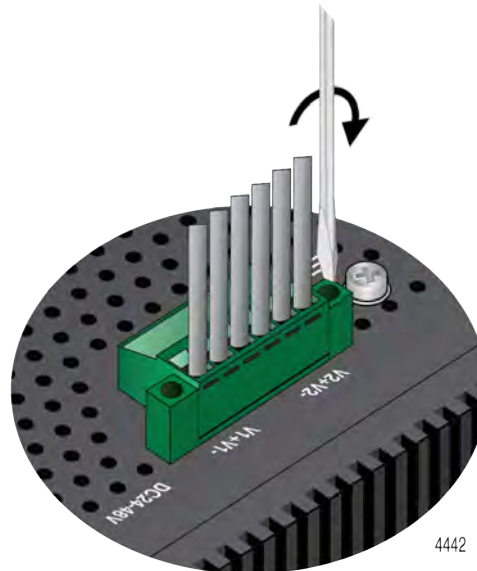

Figure 48. Fasten the Power/Alarm Connector to Chassis
13. On the IS230-10GP switch, tighten the two connector fastening screws on the ends of the power/alarm connector to the chassis as shown in Figure 48.